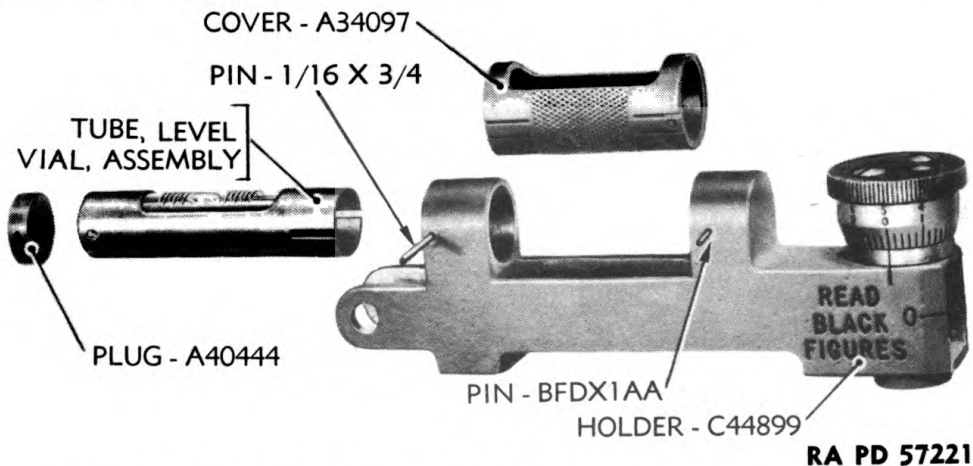
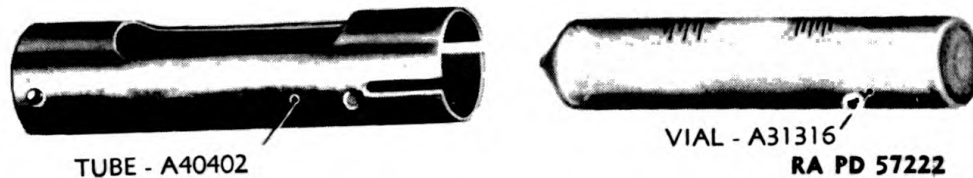

Figure 9—Gunner's Quadrant M1—Vial Tube Removed from Holder
Figure 10—Gunner's Quadrant M1—Level Vial Removed from Tube
(4) **REMOVE LEVEL VIAL** (fig. 9).
(e) Extreme care must be exercised in removing the level vial from the tube. The gypsum must be dug out very slowly and carefully. Avoid breaking the level vial tip off. Never cross the center of the gypsum; always dig around the edge nearest the tube. Use shim stock to dig out the remaining gypsum between the level vial and the tube. After all of the gypsum has been removed, push the level vial out of the tube (fig. 10).
d. **Install Level Vial** (fig. 9 and fig. 10).
(1) Thoroughly clean out level vial tube.
(2) Place level vial tube on flat leveled surface.
(3) Push level vial into position in level vial tube and shim with paper of desired thickness to secure level vial in leveled position.
(4) Set level vial in level vial tube with GYPSUM, calcined, Grade I, fine, mixed with water to form paste, and allow gypsum to dry.
(5) Hold level vial cover in position over level holder with the small projection on the inside of the cover toward the micrometer.